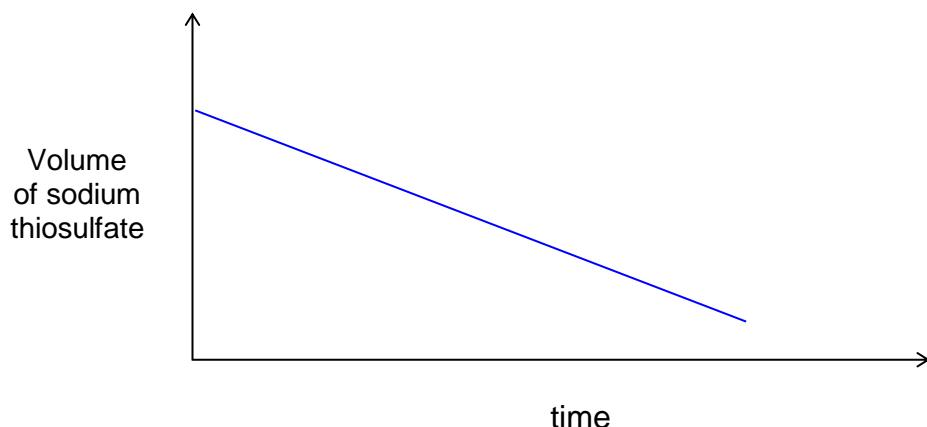

Fig. 4.1 [1]
- (b) Sketch on Fig. 4.1 the graph you would expect to obtain from your results.